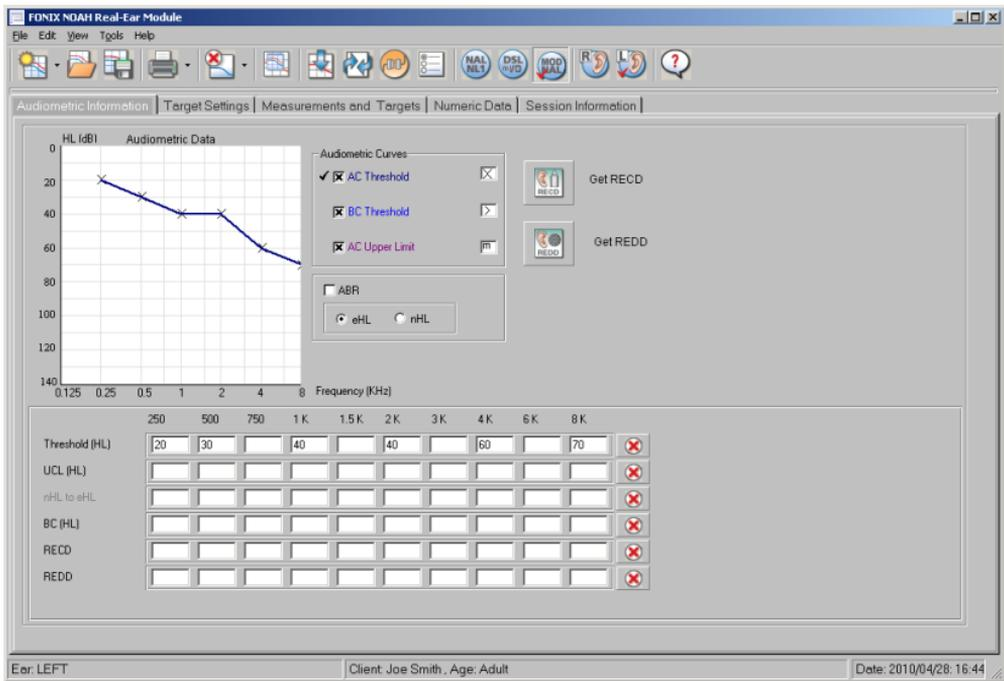

Figure 2: Audiometric Information screen
1. The FONIX NOAH Real-ear Module will automatically open to the **Audiometric Information** tab. See Figure 2. This window will display the latest NOAH audiogram for the selected patient. If no such audiogram exists, you will need to enter the patient's measured audiogram values in the table below the graph. At a minimum, enter values at 500, 1000, 2000, and 4000 Hz.